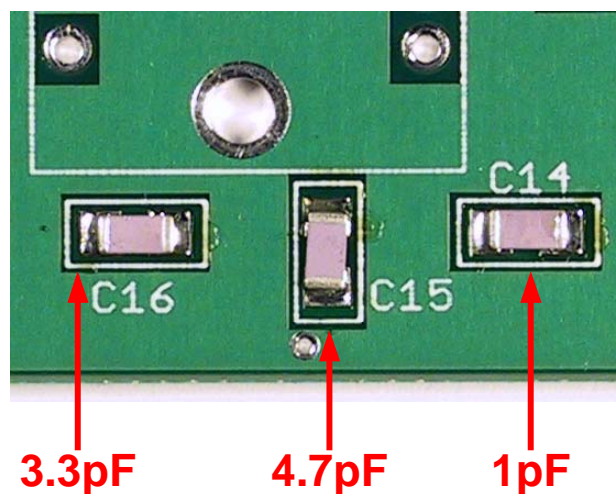

Figure 8. C14, C15 and C16 Locations
- Remove C16 from the top compartment. This is a 3.3 pF capacitor and the film covering this part is **ORANGE**. Install it at C16, as shown in **Figure 8**. This installation will require a little more heat and solder because of the via to the bottom copper layer.
- Remove C15 from the top compartment. This is a 4.7 pF capacitor and the film covering this part is **RED**. Install it at C15, as shown in **Figure 8**. Like C16, use a little extra solder and heat to ensure a good solder joint.
- Remove C14 from the top compartment. This is a 1pF capacitor and the film covering this part is **YELLOW**. Install it at C14, as shown in **Figure 8**. Use a little extra heat and solder to make a solid joint.